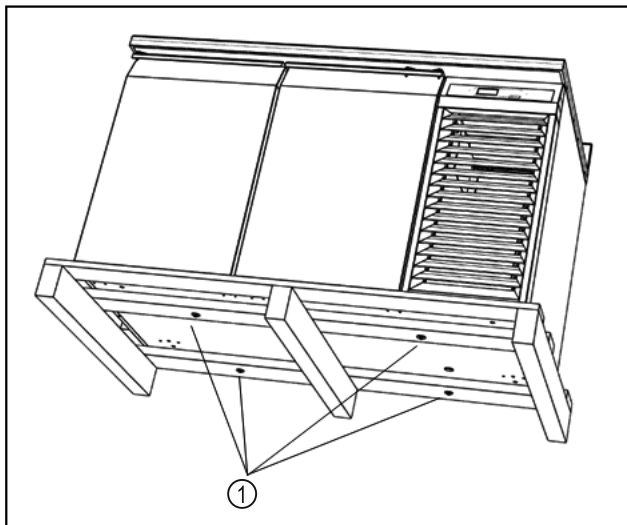

Fig. 7
- ▶ Odstranite vijake. Fig. 7 (1)